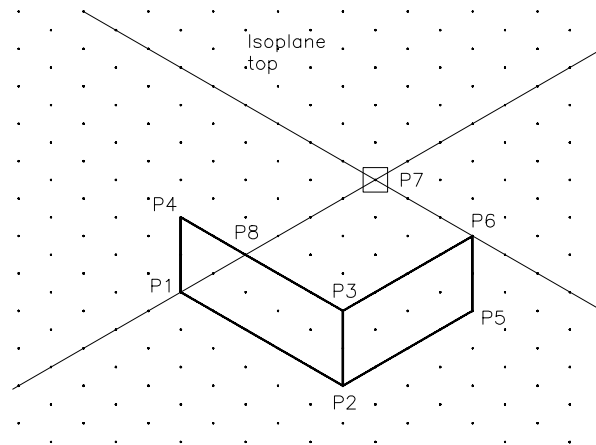

Figure 21-11 Drawing the top face
4. Change the isoplane to isoplane top by pressing the F5 key. Invoke the **LINE** command and draw the lines as shown in Figure 21-11.